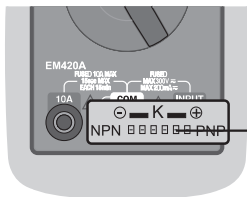

Figure 2
2. Refer to the Figure 2, connect the supplied Adapter to the " **COM** " terminal and the " **INPUT** " terminal. Don't reverse the connection.